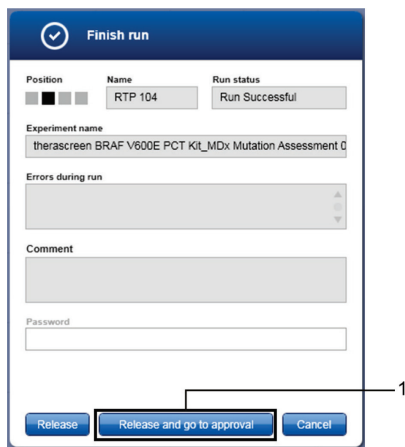

Figure 23. “Finish Run” window. 1 = Release and go to approval.
8. To view the run information and BRAF V600E assay results, click “Release and go to approval”. This also releases the RGQ instrument ready for the next run (Figure 23).